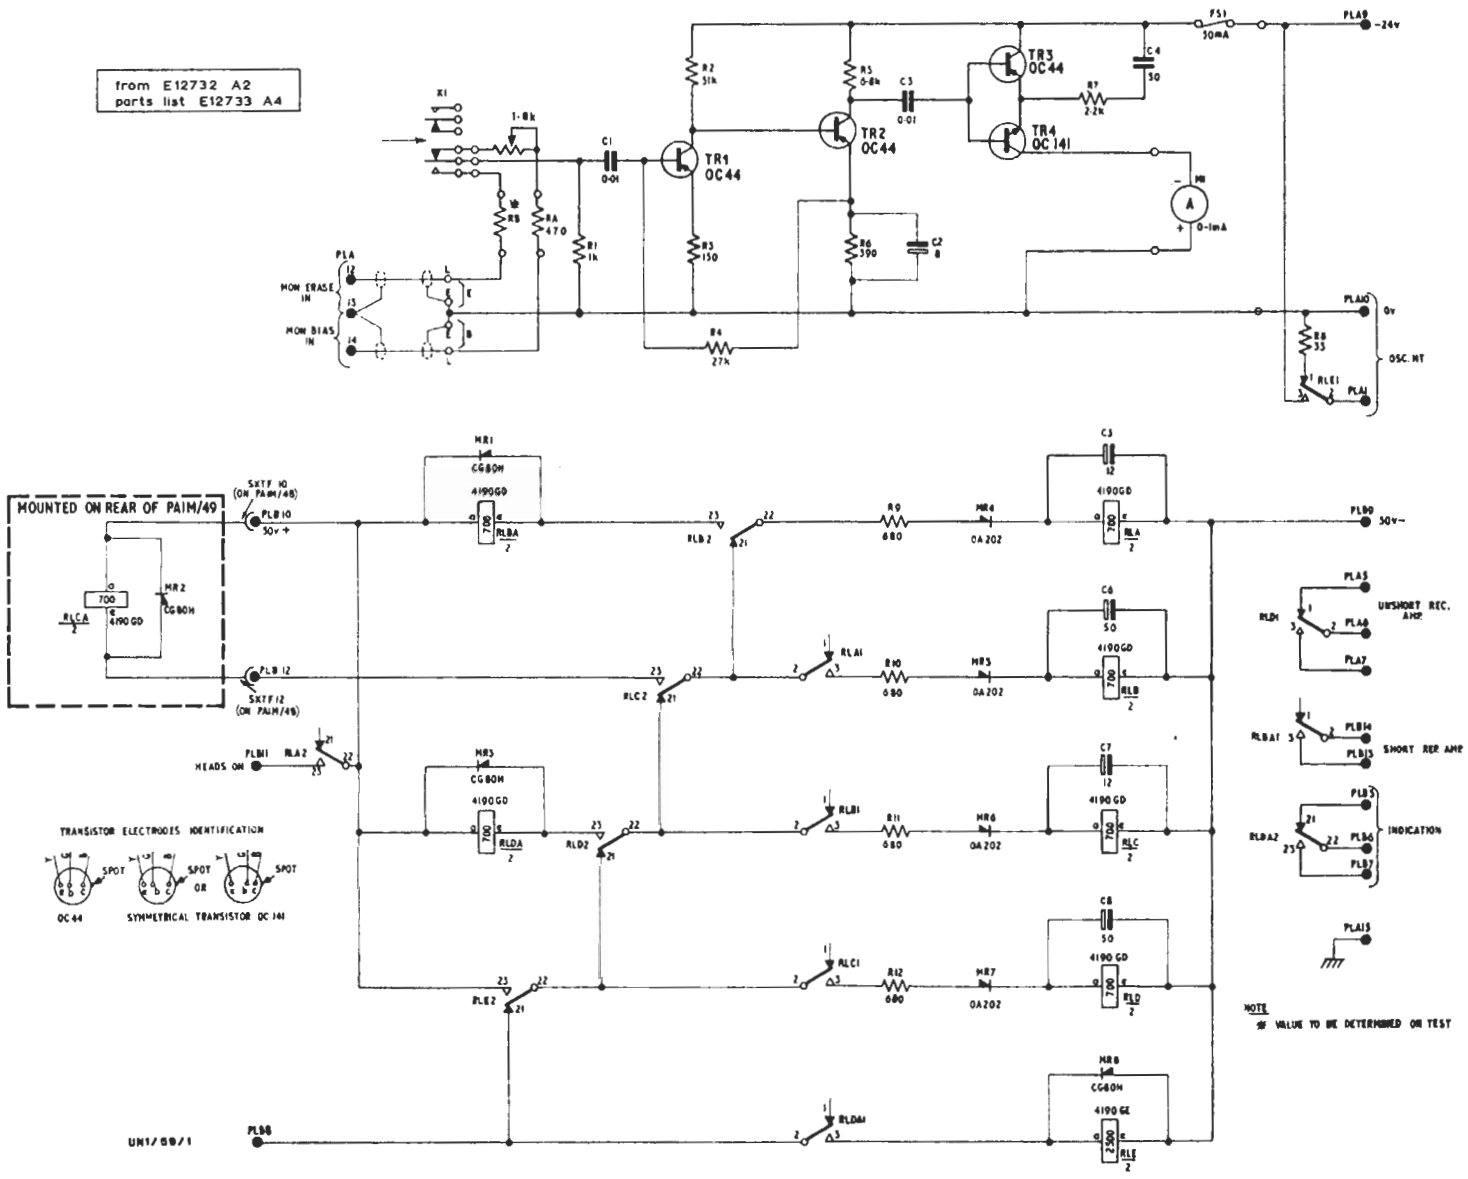

Fig. 1 Circuit of the Metering Unit UN1/59
The circuit diagram of the UN1/59 is shown in Fig. 1.
- RLCA** Energised by the operation of RLC-2. The contacts of this relay (not shown in Fig. 1) change over the programme head from the reproducing amplifier to the recording amplifier.